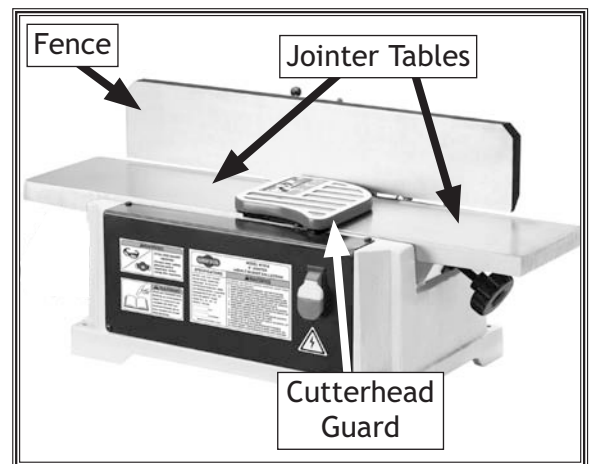

Figure 17. Fence positioned over the jointer tables.
- Slide the fence forward until it contacts the cutterhead guard and the cutterhead guard completely covers the cutterhead, as shown in Figure 17.